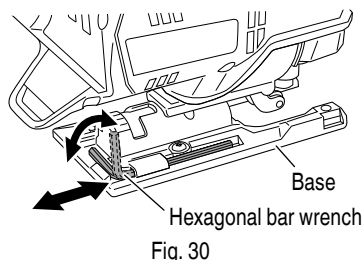

Fig. 30
- It is possible to house the axiliary hexagonal bar wrench on the base (Fig. 30).